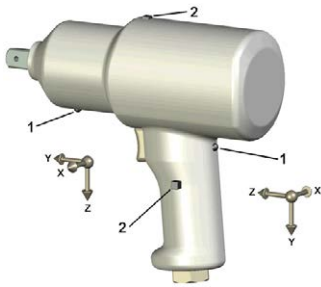
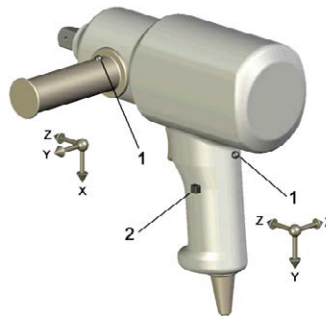

Figure 2 : without Support Handle
Figure 3: with Support Handle
Oil-pulse tools with a mass less than 2kg are normally operated using only one hand and therefore only the hand position on the trigger handle is measured. Tools of a mass of 2kg or more are normally operated using both hands and measurements are made in two positions. For tools without a side handle, the second hand position is on the front casing or – if that is not possible – on the motor housing (see figure 2). For tools with a side handle, vibrations are measured in three directions both on the trigger and the support handle (see figure 3). On the tools intended to be used with two hands, two positions are measured and the position with the higher value is declared.
Three different operators carry out three series of five consecutive measurements on each model, using three different units. Vibration measurement are made in two positions when the tool has mass of 2 kg or over (see figure 2) or when the tool has a support handle (see figure 3). For each hand position, we combine the result from the three operators into one value (a_h), using the arithmetic mean of the three \bar{a}_{hv} values. \bar{a}_h values for each hand position are calculated as the arithmetic mean of the a_h values for the different tools on that hand position. The declared value, a_{hd} , is the highest of the \bar{a}_h values reported for the two hand positions. The uncertainty K value is estimated by the equation (2).